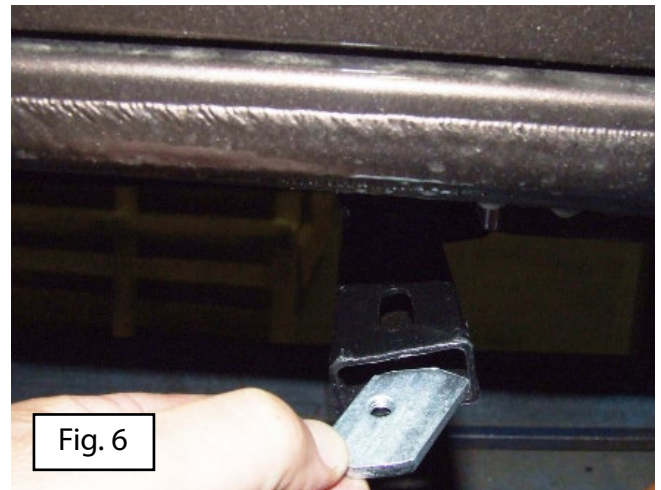
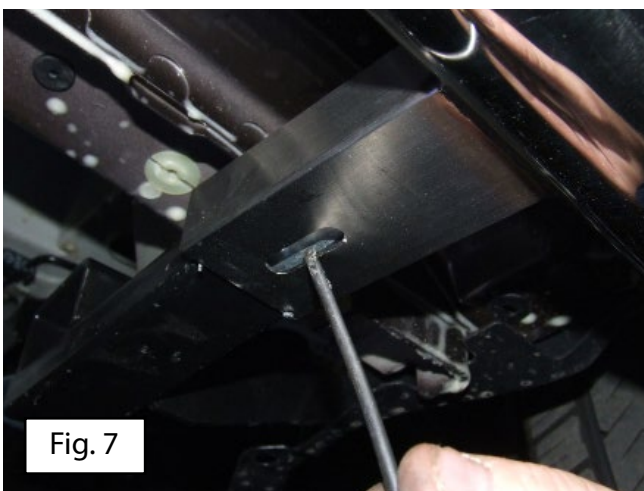
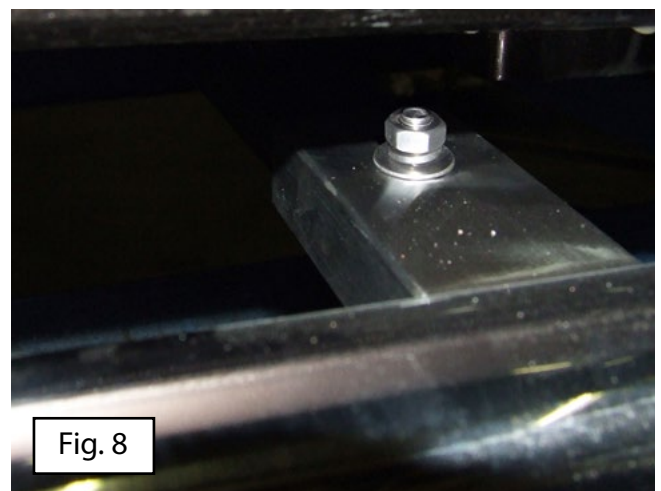

Fig. 6
Fig. 7
Fig. 8
5. Start to mount the side bars. Use part 9, 10, 11 and 12 for this. (Fig. 6 + Fig. 7 + Fig. 8) Do not tighten yet! BEGIN WITH THE BOLT AT THE BOTTOM and with the nut at the top. See Fig. 8.